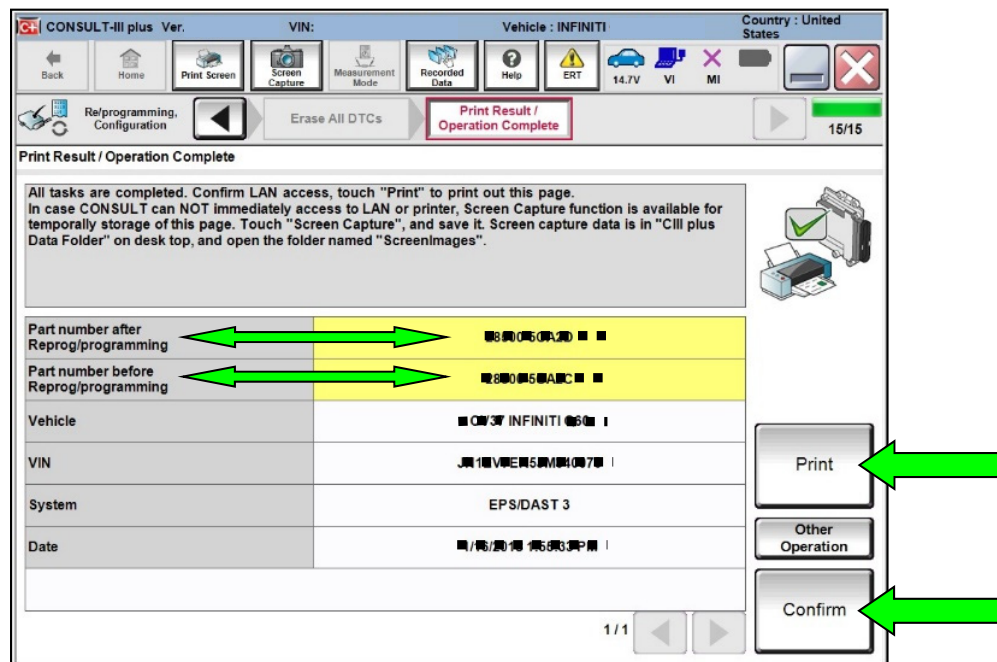

Figure 26
43. Print a copy of this screen (Figure 26) and attach it to the repair order for warranty documentation.